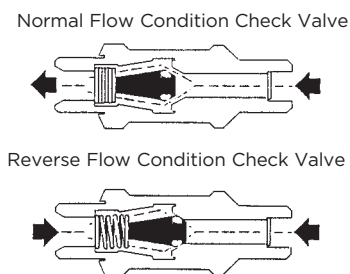

Figure 41-12: Reverse Flow Check Valves
Cutting torches should be equipped with reverse flow check valves and flame arrestors to prevent flashback and explosion (Figure 41-12). These valves must be installed according to the manufacturer's instructions.
- Use backflow check valves and flame arrestors according to the manufacturer's instructions. (See Figure 41-12.)